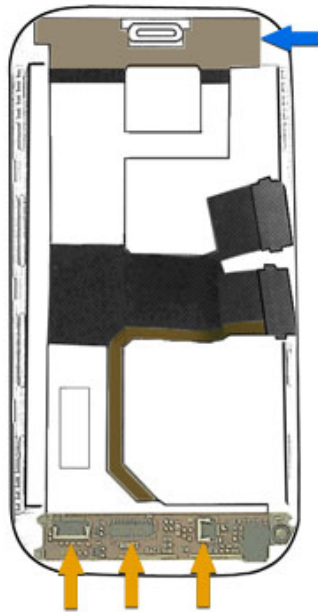

Figure 6
- Disconnect three connectors at the locations shown in the figure 6 by orange arrows. Use safe open pry tool to detach these cable connectors.
- Use safe open pry tool to lift up the receiver from the phone assembly. Note that the receiver is attached to the main FPC. A blue arrow indicates the position of the receiver in Figure 6.